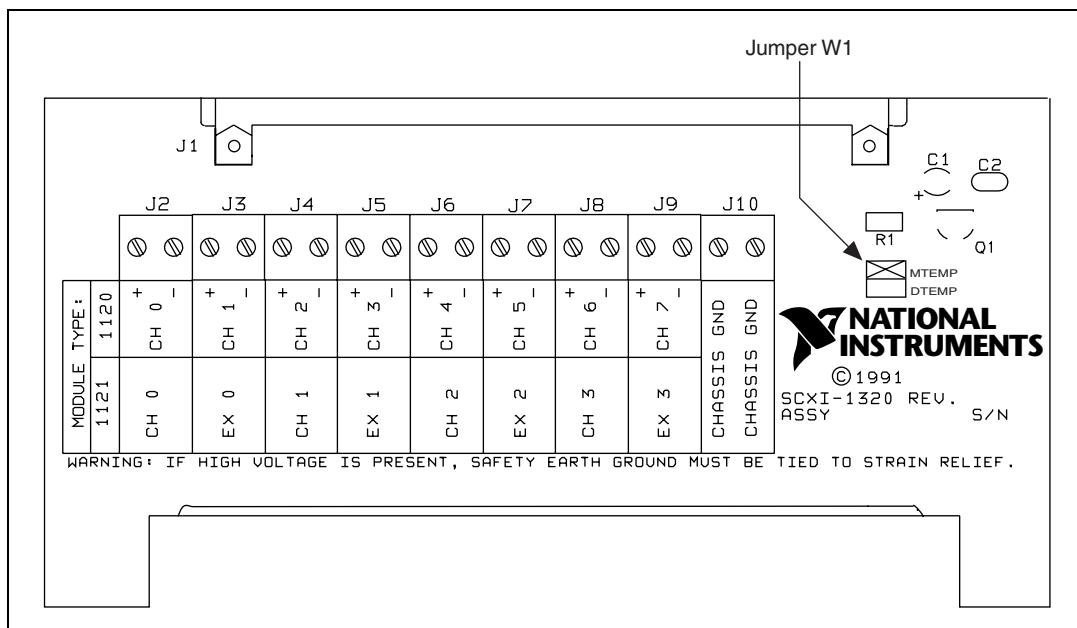

Figure 2. Location of Jumper W1 on the SCXI-1320 Terminal Block
- a. Refer to Figure 2 to locate jumper W1 and verify that MTEMP is jumpered on your terminal block.